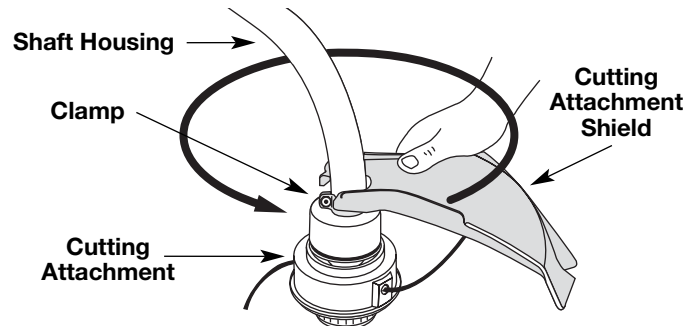

Figure 4
2. Push the cutting attachment shield down to the top of the cutting attachment assembly and then rotate the cutting attachment shield until the screw holes align and the guard fits into the recessed pocket. See Figure 4.